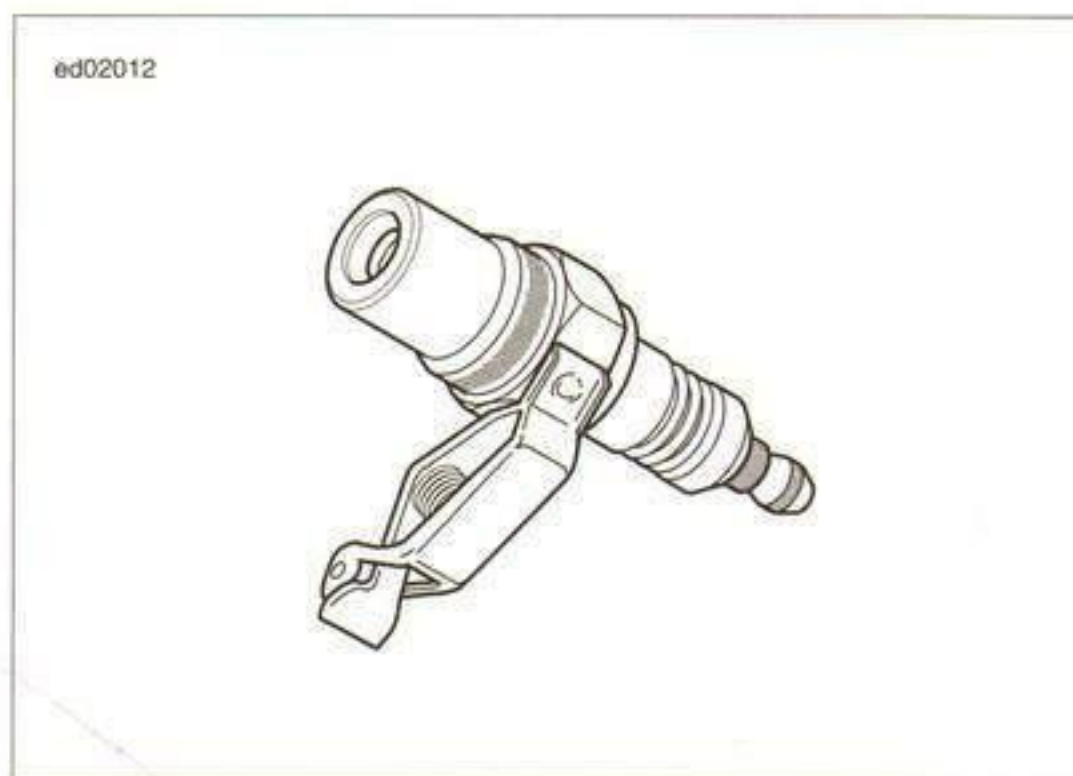

Figure 6-54. Spark Tester
3. See Figure 6-54. Attach ignition coil to SPARK TESTER. Clip tester to cylinder head bolt.